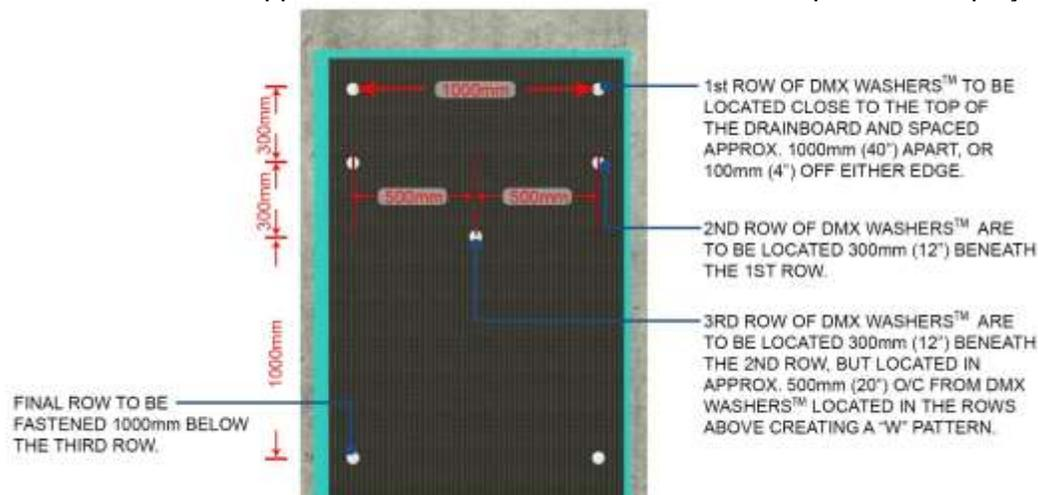

Figure 3 Vertical Washer Placement
Step 5: As you roll out the membrane vertically fasten the membrane to the lagging with nails and DMX Washers™ (or steel washers). Figure 3 below is our recommendation for washer placement when installing DMX Drain 15X™ vertically.